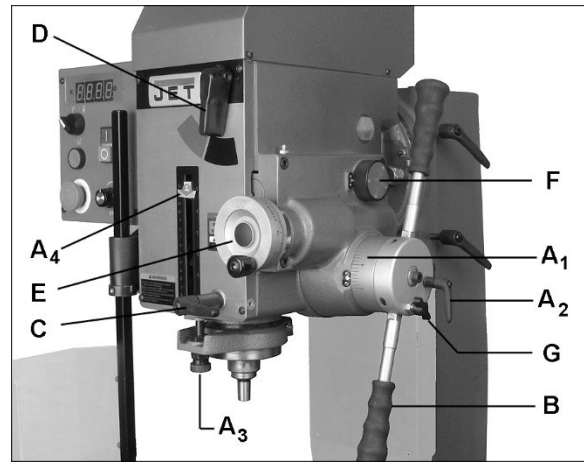

Figure 8-1: operating controls (tapping model 45VSPFT shown)
3. Place speed lever (see D, Figure 8-1) to low speed range (black).
Refer to Figures 8-1 and 8-2.
See Figures 8-1 and 8-2.
See Figures 8-1 and 8-2:
4. Tighten spindle lock (C, Figure 8-1) at desired height.
5. Select speed range (D).
6. Turn on spindle and adjust speed dial (O) to desired RPM.